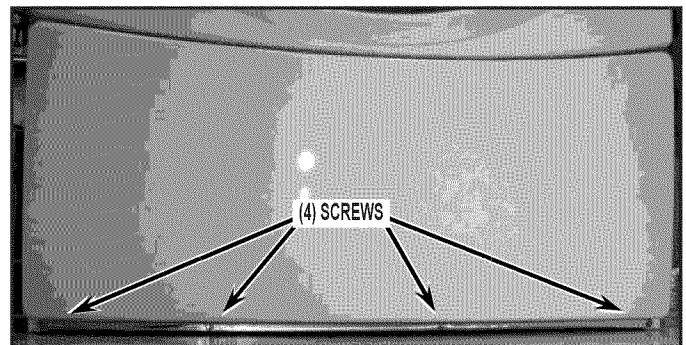

FIGURE 2
- b. If the panel is curved, remove either two (2) or four (4) screws from the bottom edge. See *Figure 2*.